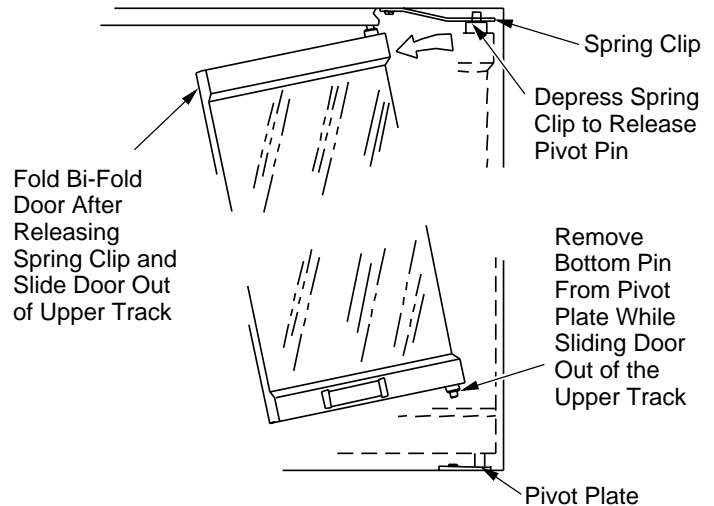

Figure 37 - Removing Glass Doors
- Fully fold the frame assembly and slide the upper edge towards the center of the firebox opening until the guide pins are free of the frame rail (see Figure 37).